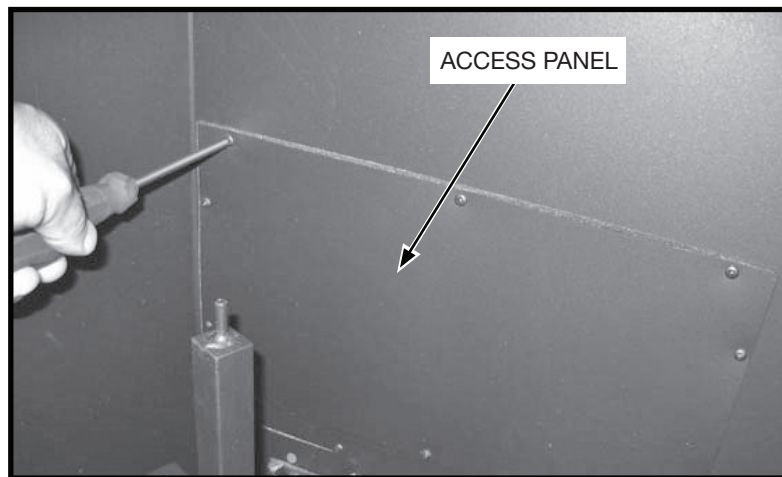

Figure 6: Access panel.
2. Remove access panel from right hand side of the firebox (Figure 6).